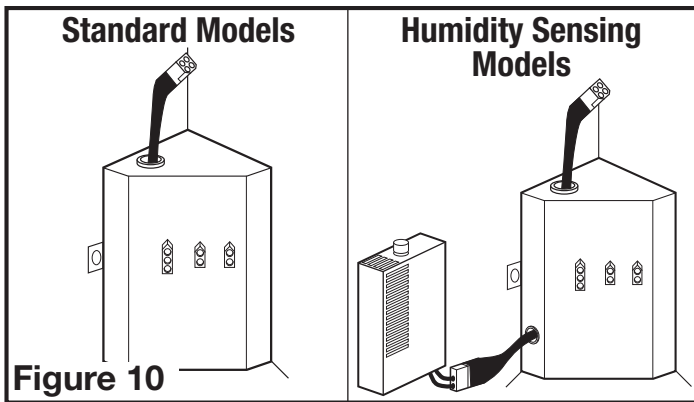

Figure 10
- 3b. From where you have chosen to access the fan's junction box, connect the white wire from the house to the white wires from the fan. Connect the wire from the automatic position on the wall switch to the black wire from the fan, connect the wire from the manual On position on the switch to the yellow wire from the fan. Connect the ground wire from the house to the green wire from the fan housing (**Figure 10**). Use approved methods for all connections.
- 3a. **STANDARD MODELS:** Plug the fan's 2 pin and 3 pin quick connect motor cords into the corresponding receptacle located on the wire compartment cover. These cords will only fit one way into the receptacles (**Figure 10**).
- 3b. **HUMIDITY SENSING MODELS:** Plug the fan's 2 pin and 3 pin quick connect motor cords into the corresponding receptacle located on the wire compartment cover. Connect the two pin connector from the humidistat compartment to the two pin connector from the side of the wire compartment cover. These cords will only fit one way into the receptacles (Figure 10).